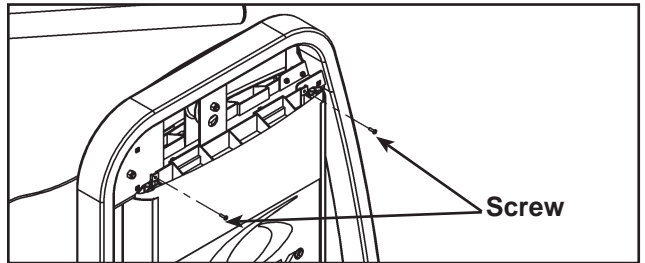

Figure 15
- B. Install the top two screws securing the back shroud. See Figure 15.